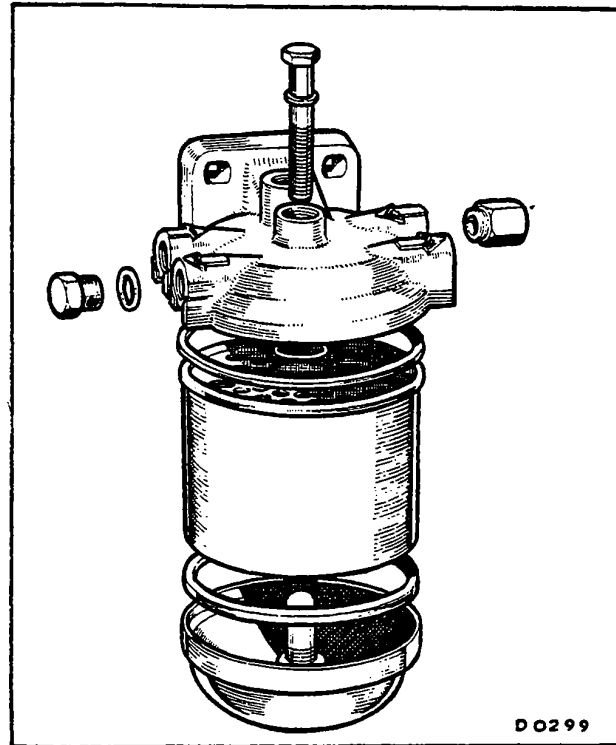

Fig. 1
4. Reassemble the filter components as shown in Fig. 1.